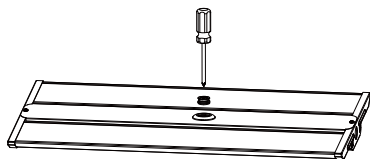

Figure 12
- Step1.Use a screwdriver to remove the 1/2 plug from the sensor; [Figure 12]